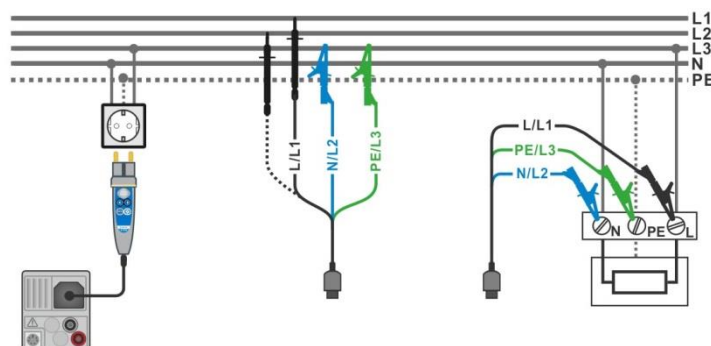

Figure 7.43: Phase-neutral or phase-phase line impedance measurement – connection of Plug commander and 3-wire test lead
- › Connect test leads or Plug commander to the object under test, see **Figure 7.43**.